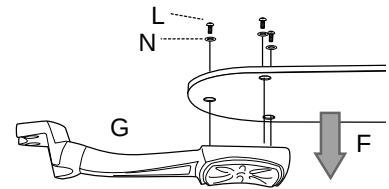

Fig. 3
3. Position blade arm (G) under blade (F) and attach blade arm (G) to blade (F) with blade screws (L) and blade washers (N). Do not tighten blade screws (L) until each blade screw (L) has been started. Then, tighten each blade screw (L) starting with the one in the middle. [Fig. 3] Repeat for the remaining blades (F).